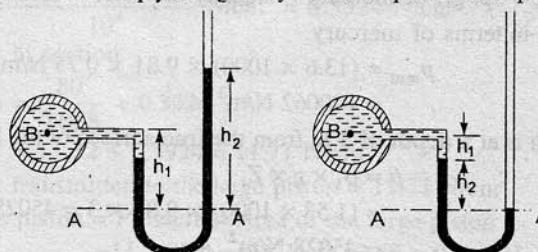

Fig. 2.9 U-tube Manometer.
2.6.2 U-tube Manometer. It consists of glass tube bent in U-shape, one end of which is connected to a point at which pressure is to be measured and other end remains open to the atmosphere as shown in Fig. 2.9. The tube generally contains mercury or any other liquid whose specific gravity is greater than the specific gravity of the liquid whose pressure is to be measured.
(b) **For Vacuum Pressure.** For measuring vacuum pressure, the level of the heavy liquid in the manometer will be as shown in Fig. 2.9 (b): Then